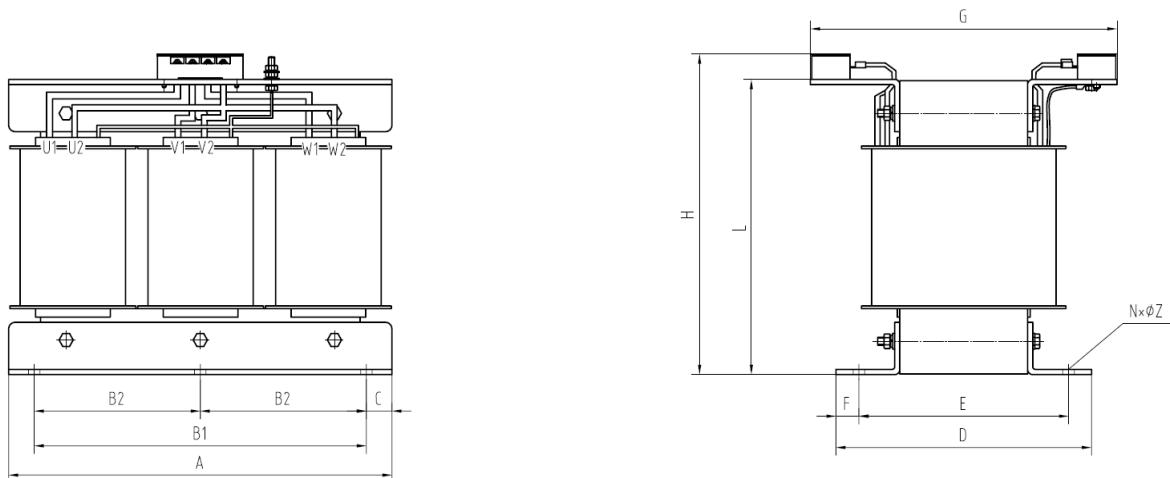
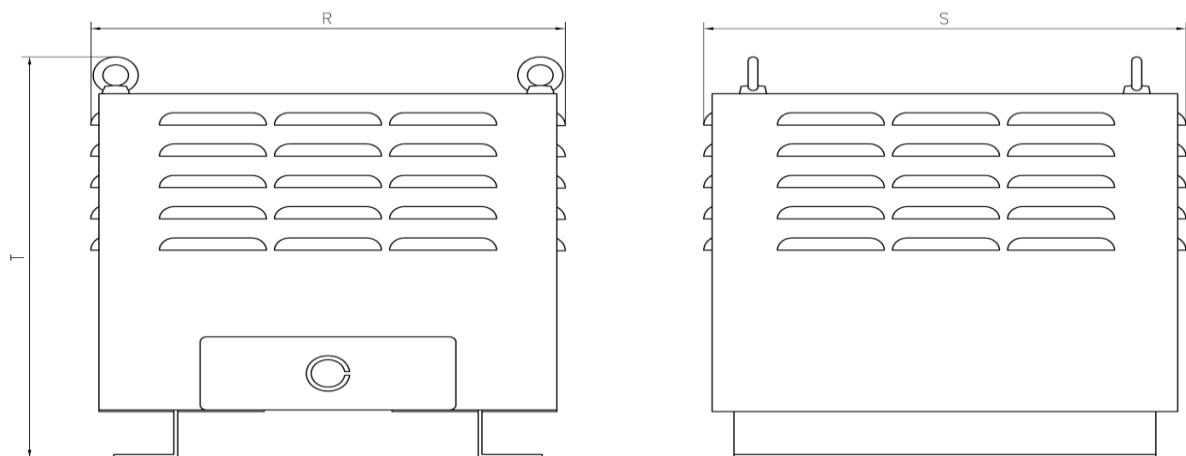

Fig. 1 Appearance dimension of BS three-phase insulation transformer
Fig3. Appearance dimension of protection cabinet
5.2 Refer to the table 3 for appearance dimension of transformer, and refer to the Fig.1 ~ Fig.3 for appearance diagram.